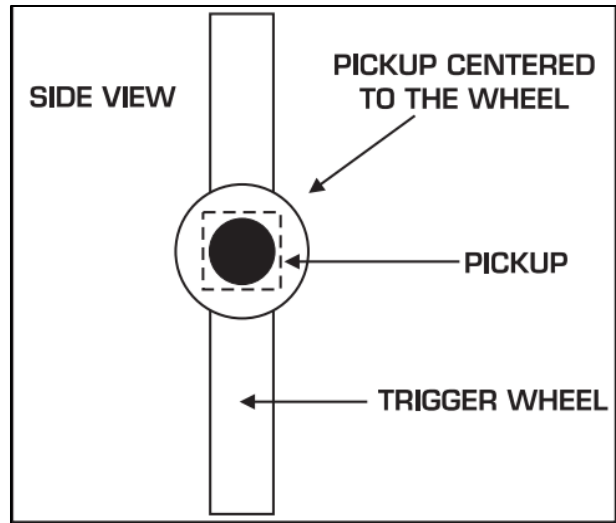

Figure 2: Pickup Centered on the Trigger Wheel.
2. Install the bracket onto the engine. The bracket goes installed on the passenger side of the balancer. Use the correct length bolts and shims in the proper location to insure the wheel is centered with the pickup. **(Figure 2)**